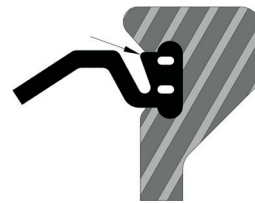

Figure 3
5. After the seal locks into place, push the top lip against the frame rail. (**See Figure 3**)